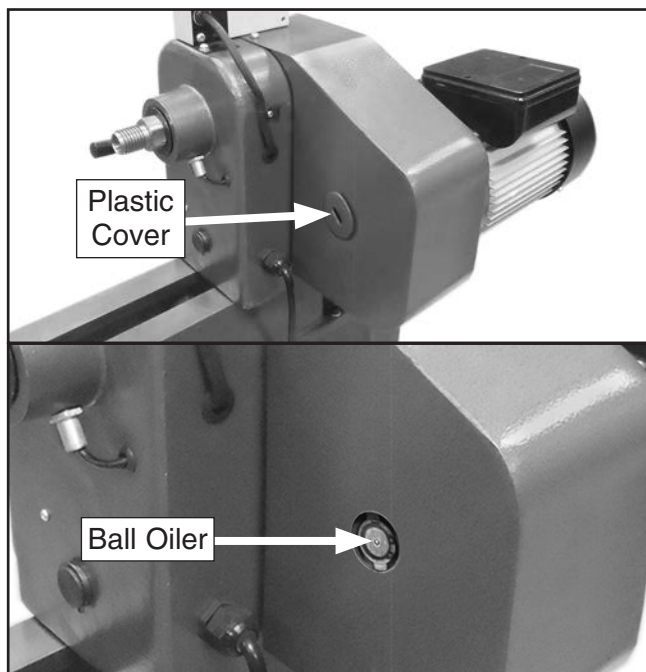

Figure 49. Location to access ball oiler.
2. Remove plastic cover shown in **Figure 49** to access motor shaft ball oiler.